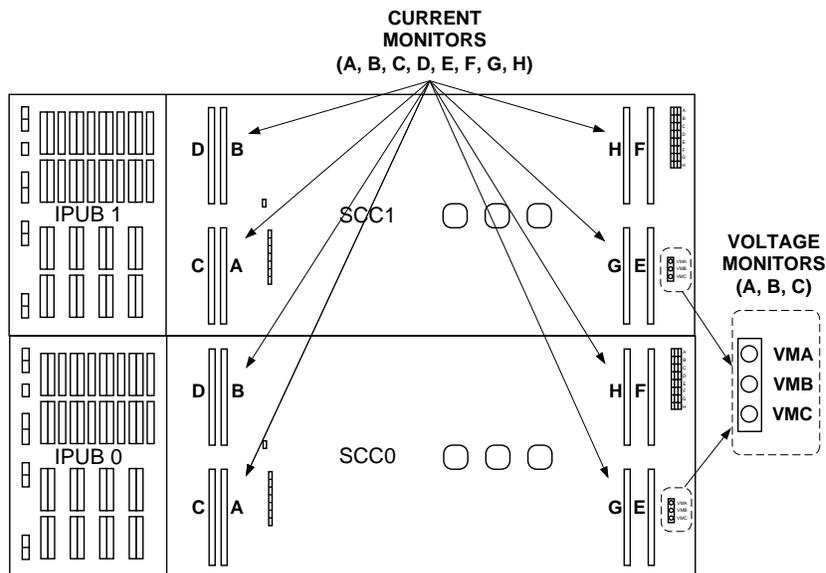

Figure 2. SCC Backplane
13. Looking at the rear of the SCC unit, record the Current Monitor or Voltage Monitor LED that is lighted. (See Figure 2.)